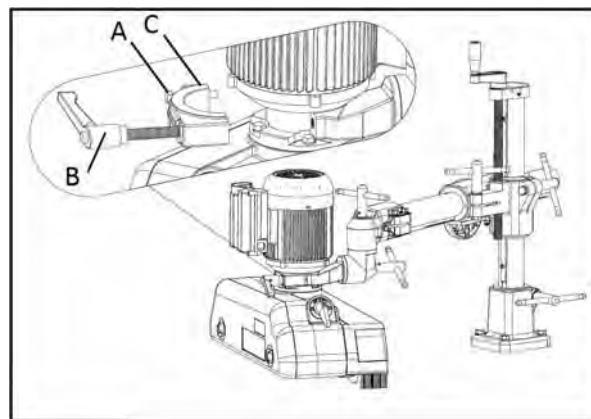

Fig. 12: Assembly of roller body
Step 10: Loosen screw A and lever B (Fig. 12) and remove motor clamp (Pos. C, Fig. 12).
Step 11: Place the roller body on the clamp and secure with the clamp (Pos. A and B, Fig. 12).